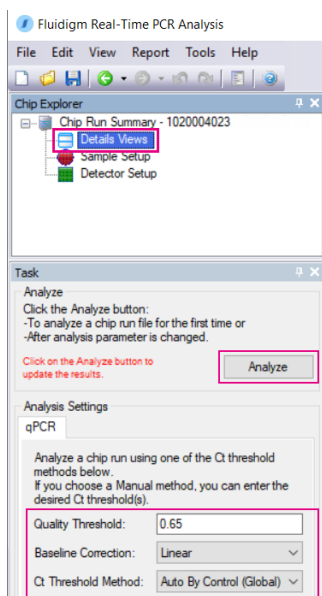

Figure 19. Details Views
- 6 Set the following Analysis Settings, then click **Analyze** to analyze the IFC run (Figure 19).